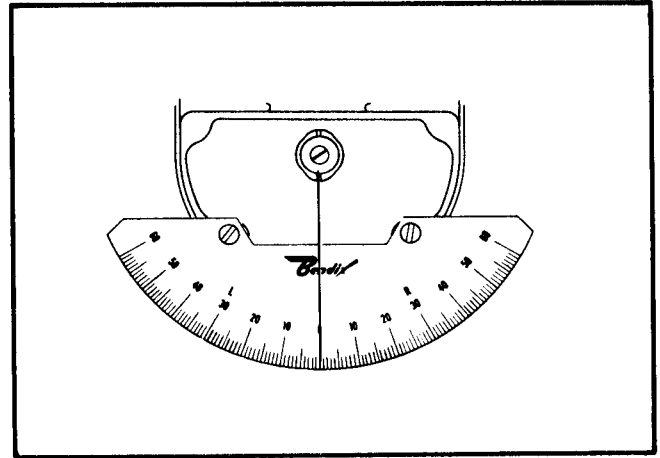

Figure 12-9B. Template and Pointer Attached to Breaker Compartment
- d. Attach timing template to breaker compartment as shown in figure 12-9B, using 8-32 screws  $1/4$  inch long.